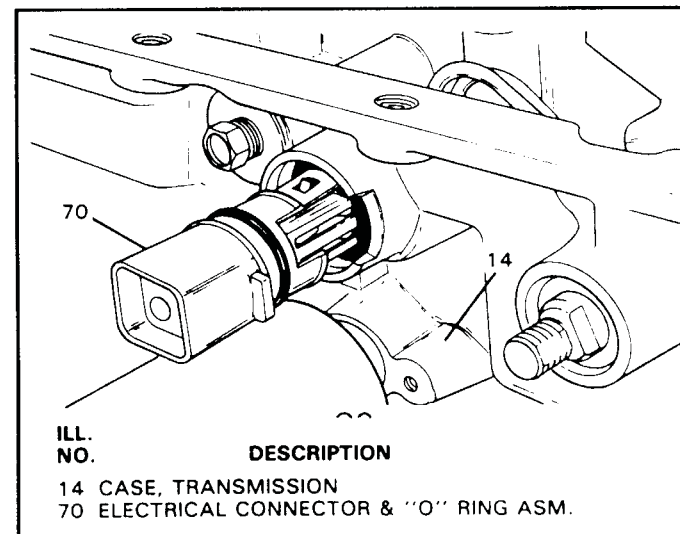

Figure 114
10. Install new "O" ring on the case connector, and install case connector, as shown in Figure 114.